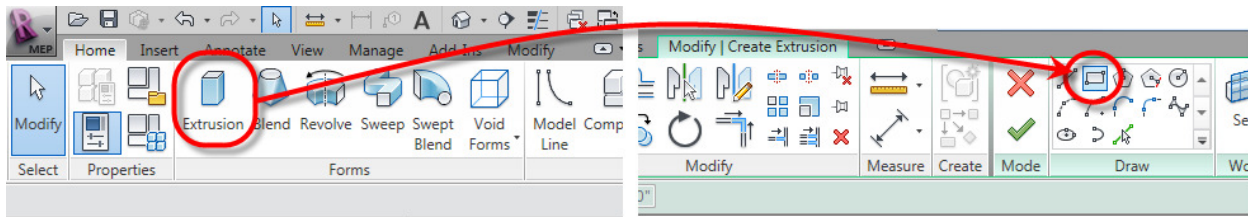

Figure 22. The *Solid Extrusion* tool.
- 33.** From the *Home* ribbon, click the **Extrusion** tool (see Figure 22).
- 34.** Using the **Rectangle** tool from the ribbon shown in Figure 22, create a rectangle, using the four Reference Planes that define the front, back, right and left sides of the VAV Box. *Make sure to click all four locks that appear to lock the sketch lines to the Reference Planes.*